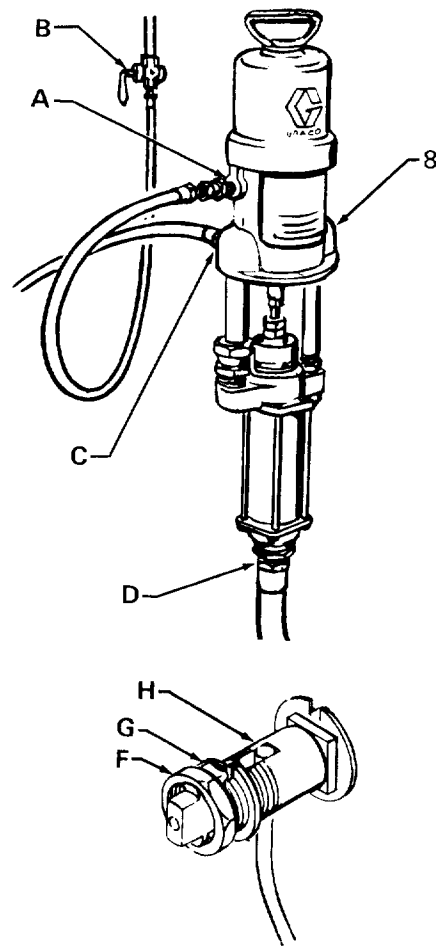

Fig 1
Whenever flammable materials are being pumped, connect a ground wire to pump air motor. Loosen grounding lug locknut (F) and washer (G), insert one end of a 12 g. (1.5 mm²) minimum ground wire into slot in lug (H) and tighten locknut securely. See Fig 1.